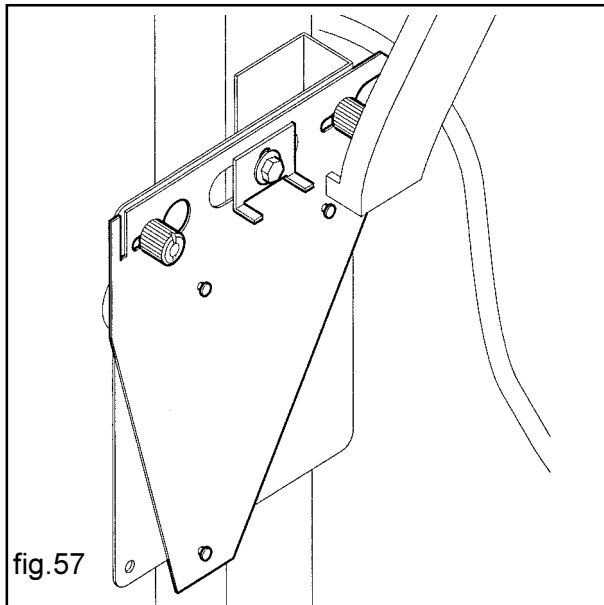

fig.57
- Remove the support bracket from the machine (fig.57).